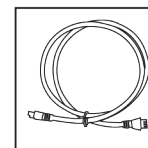

FIG. 4
- 108" Stove & Sink Jumper Wire (LEDJUMP108) — See **FIG. 4**